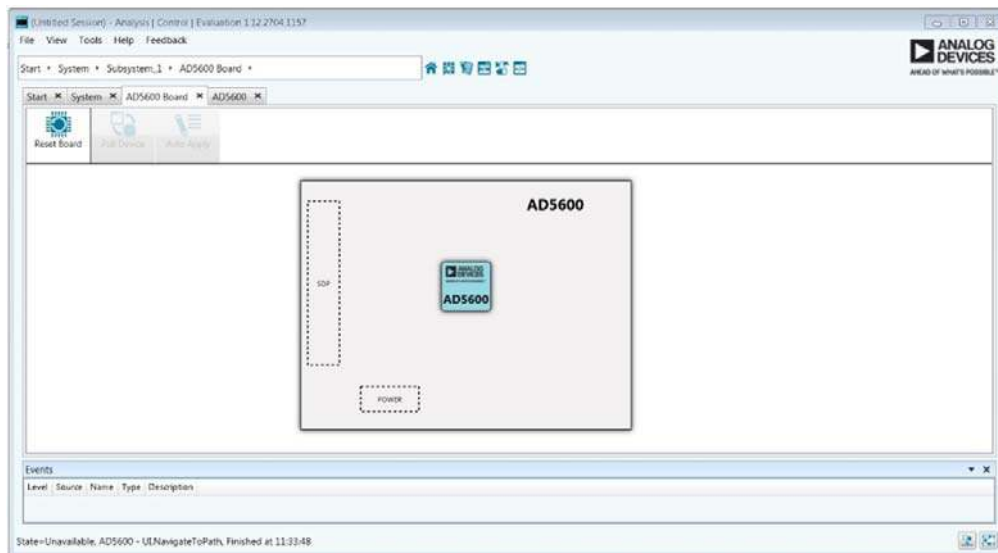
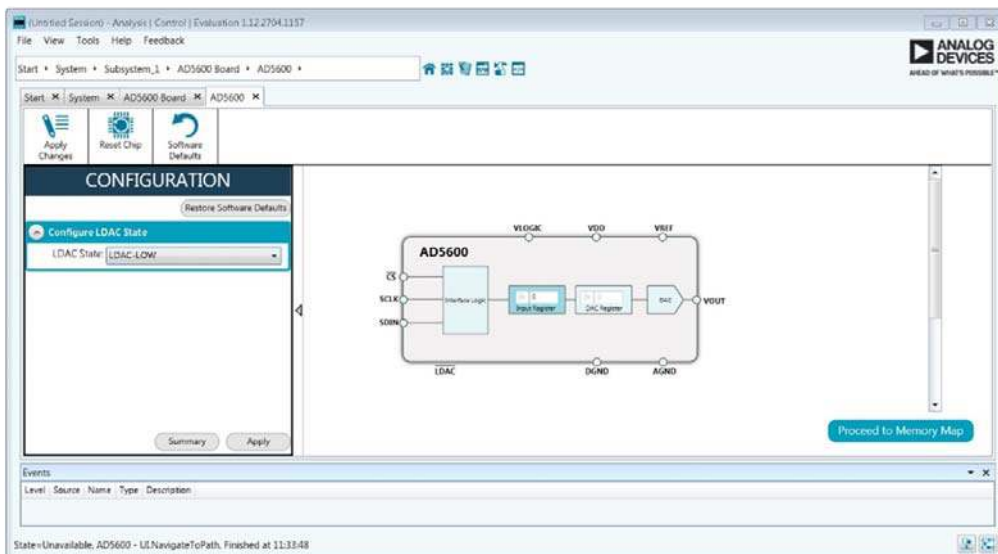

Figure 2. Board View of the EVAL-AD5600PMDZ
Figure 3. Chip Block Diagram of the AD5600
3. Double click the board icon to open the board view shown in Figure 2.
4. Double click the **AD5600** icon in Figure 2 to access the chip block diagram. This view provides a basic representation of the functionality of the board. The main function blocks of the board are labeled in Figure 3.